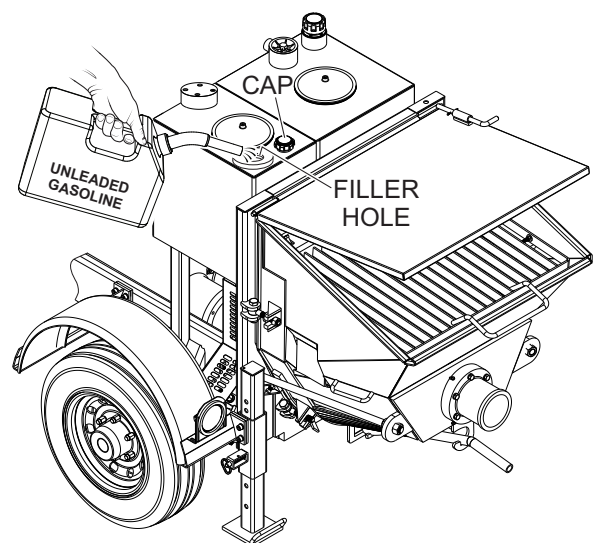

Figure 10. Adding Fuel
2. If fuel is low, remove fuel filler cap and fill with unleaded gasoline (Figure 10).